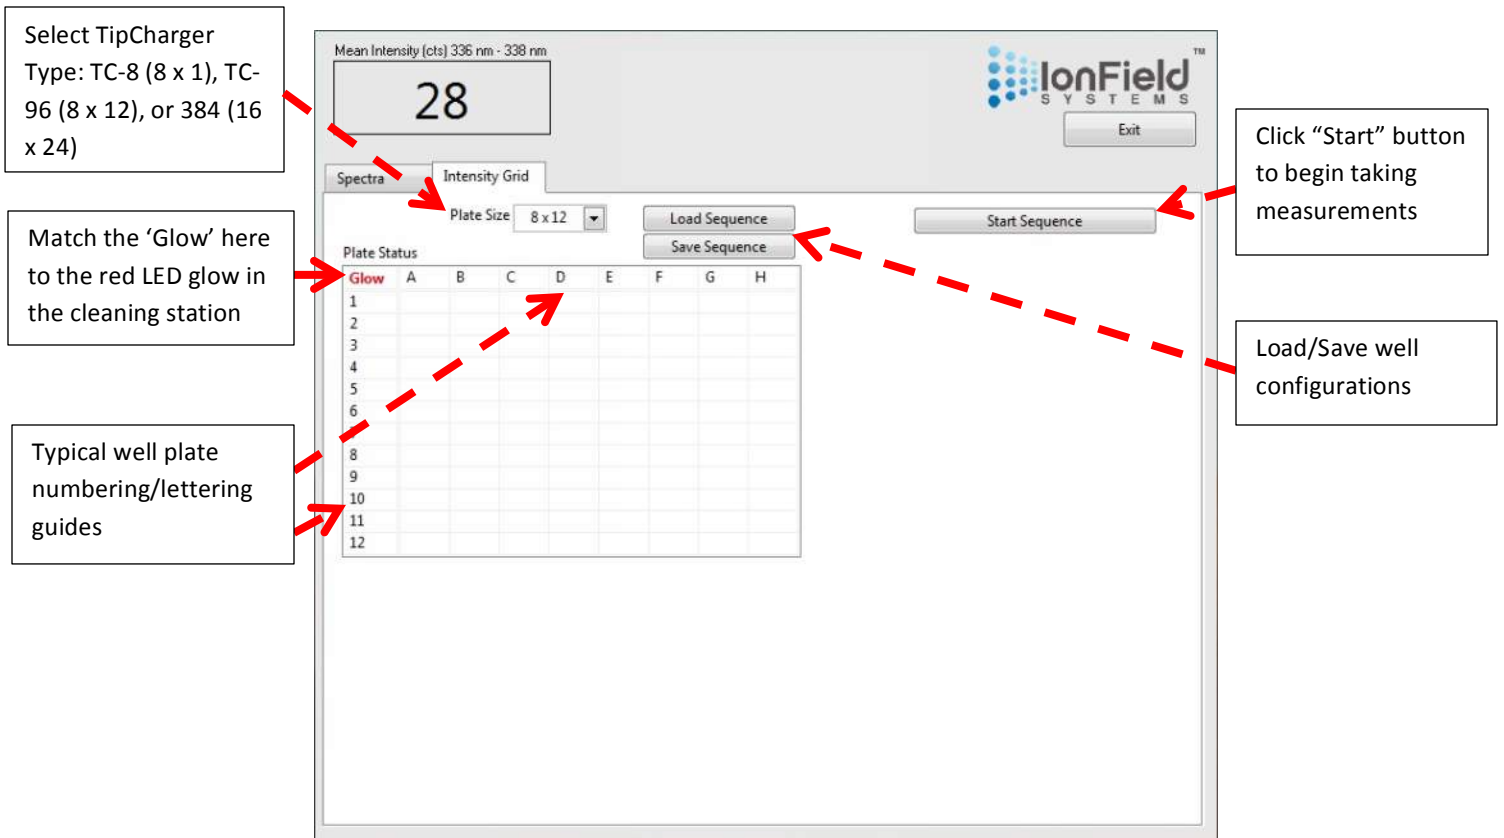

Figure 3 - Grid Intensity Tab Default Screen
9. Once you are satisfied with the integration time and wavelength selections, click on the tab labelled 'Intensity Grid' to move onto the 2nd tab which should look like the screenshot below in Figure 3: